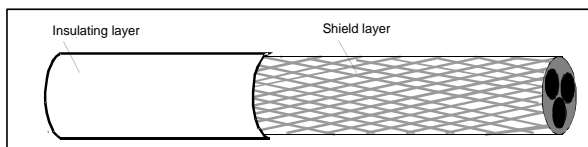

Figure D-1 Cable cross section
To effectively restrict the emission and conduction of radio frequency (RF) interference, the conductivity of the shielded cable must at least be 1/10 of the conductivity of the phase conductor. This requirement can be well met by a copper or aluminum shield layer. Figure D-1 shows the min. requirement on motor cables of VFD. The cable must consist of a layer of spiral-shaped copper strips. The denser the shield layer is, the more effectively the electromagnetic interference is restricted.